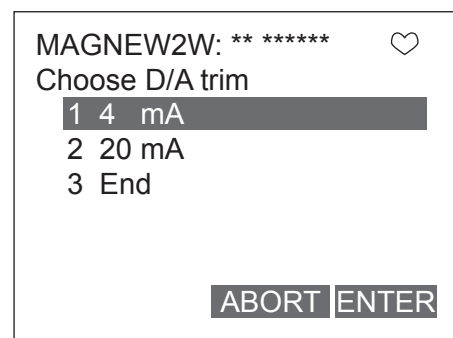

Figure 7-41
2. Once the display as shown in Figure 7-41 appears, move the arrow key up or down to select a current output to adjust, and then press F4 (ENTER). This time, select 4 mA.